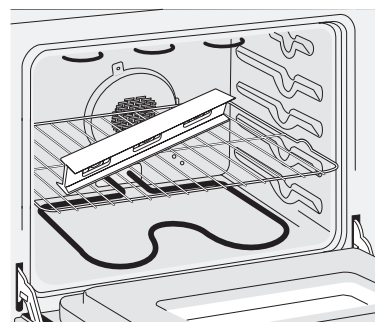
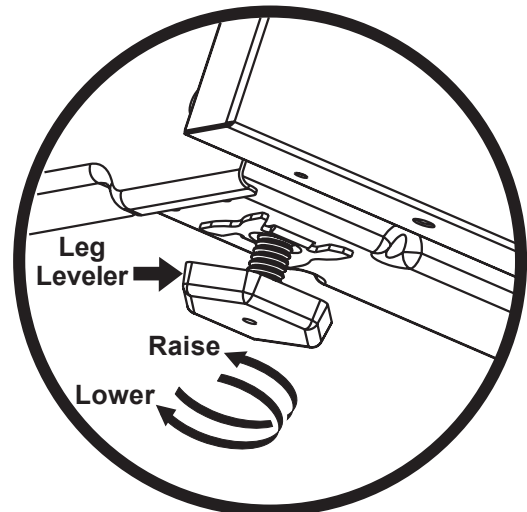

Figure 10
Figure 16
3. Check if the range is level by installing an oven rack in the center of the oven and placing a level on the rack (Figure 10).
2. Place a level on the rack (see Figure 10). Take 2 readings with the level placed diagonally in one direction and then the other. Level the range, if necessary, by adjusting the 4 leg levelers with a wrench (see Figure 16).